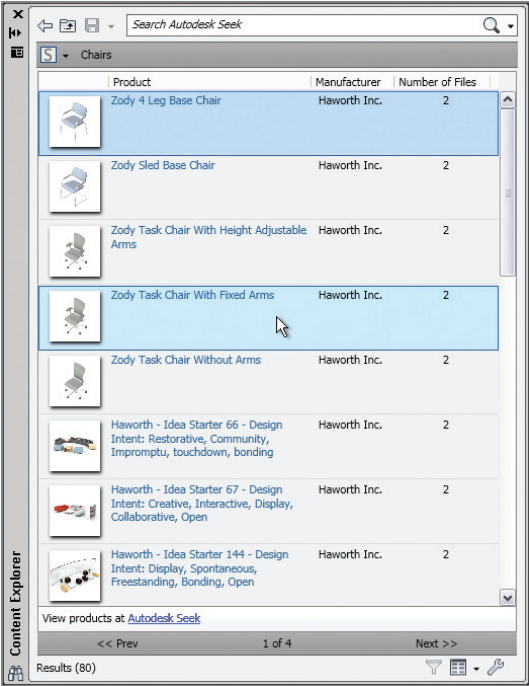

FIGURE 9.17 Searching for chairs
6. You can click on any of the *breadcrumbs* to go to specific folders in the local path. Alternatively, you can access online content. Open the Content Sources menu, and select Autodesk Seek. Double-click the **Chairs** folder, and select this item in the list: **Zody Task Chair With Fixed Arms** (see Figure 9.17).